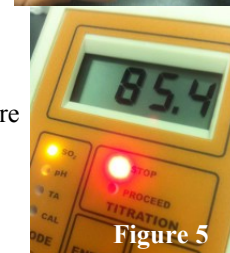

Figure 5
9. Stop titrating when beeper sounds for 15 seconds (20 beeps), red "STOP" light is on and the current exceeds 50; maintain swirling motion throughout 20 beeps. (Figure 5).